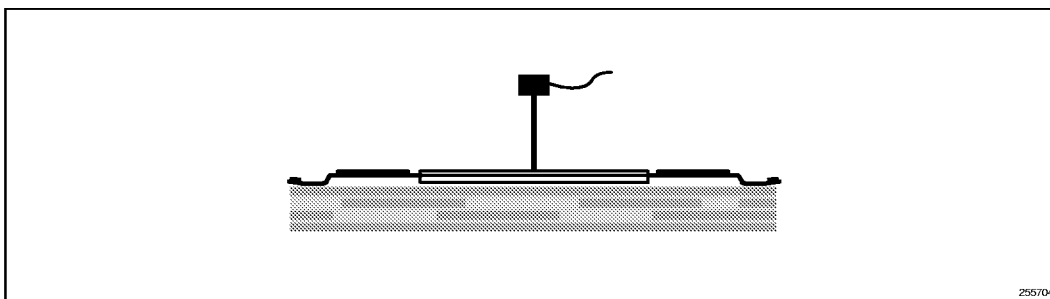

Figure 23. Technique for Measuring Case Temperature ( $T_c$ ) on TCP
- The thermocouple should be attached at a 90° angle as shown in Figure 23.